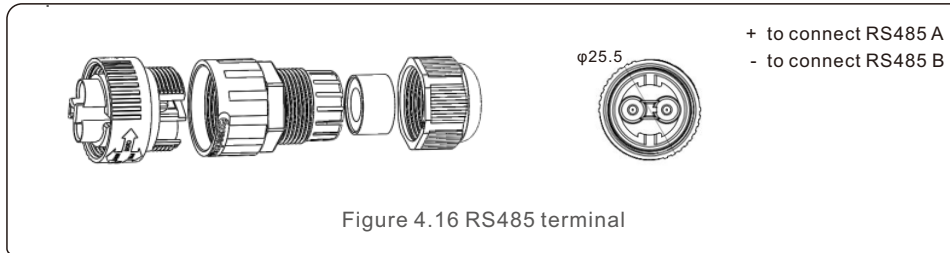

Figure 4.16 RS485 terminal
- a. Refer to figure 4.16, the RS485 terminals for inverter and EPM are already assembled.
- b. Refer to figure 4.16, connect communication cable between inverter with EPM, and then measure the distance from EPM to inverter. Use proper cable for RS485 connection. (0.5mm²)